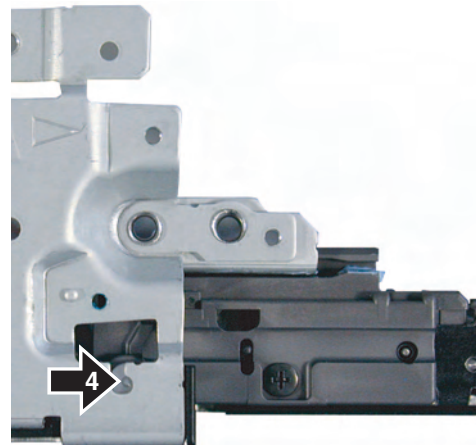

Fig.7
- ➡ **4** Pull out the Display Assy to the proper position (indicated on Fig. 7). And then, push the white knob (indicated on the figure) and draw out the Display Assy.